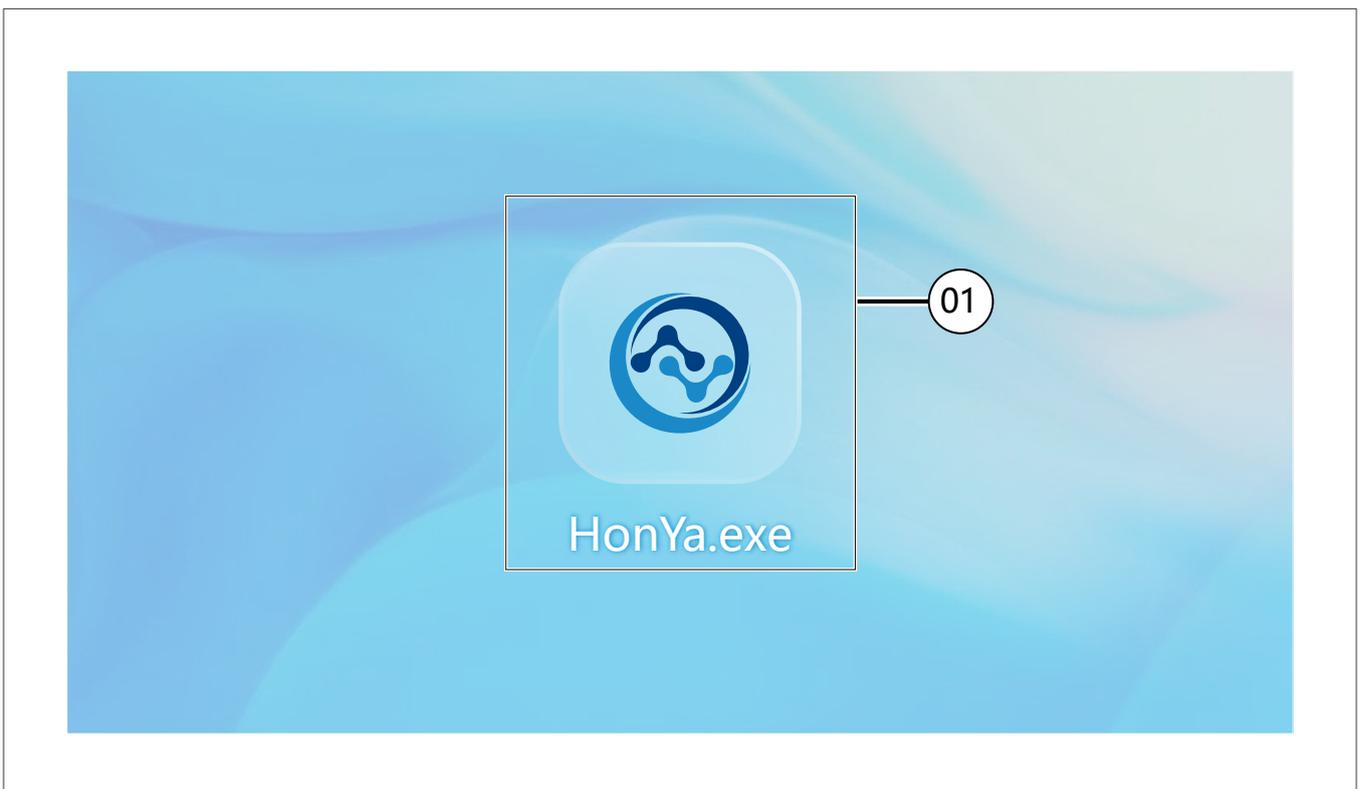

Figure 5-1
Double click "HonYa" icon (1) (Figure 5.1) on desktop.